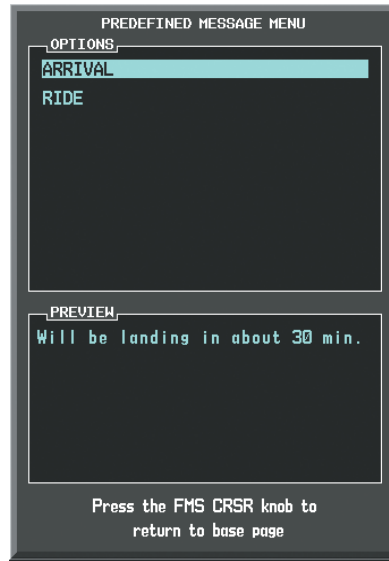

Figure 8-94 Predefined Message List
- 4) Select the **PREDEFD** Softkey. The PREDEFINED MESSAGE MENU Window is displayed as seen in Figure 8-94.